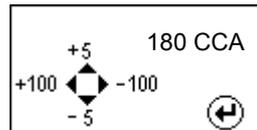

Fig.27
- Press and the display will show as in Fig.27. To enter the value, press key to increase or decrease the original value by 100. Likewise use key to increase or decrease the last two digits by 5.